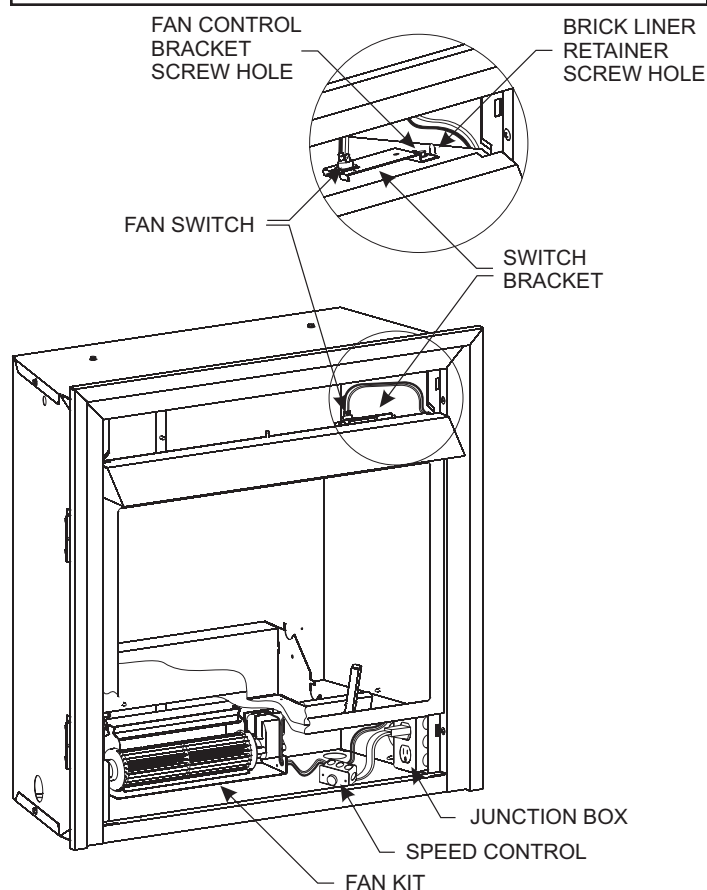

Figure 25
13. Attach fan control bracket to upper right side of firebox with one #10 x 1/2 hex screw provided. See Figure 25.
18. Replace burner assembly in firebox with the three (3) screws removed in Step 10.